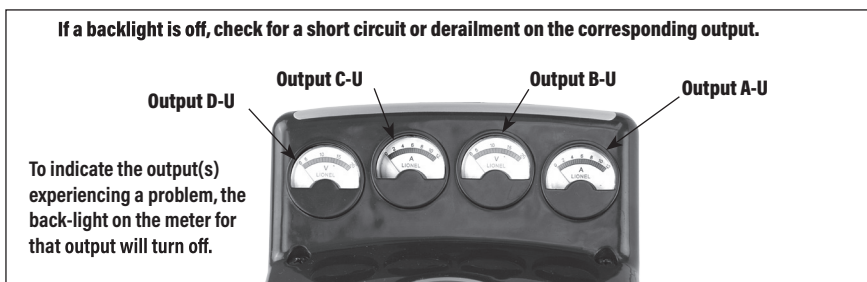
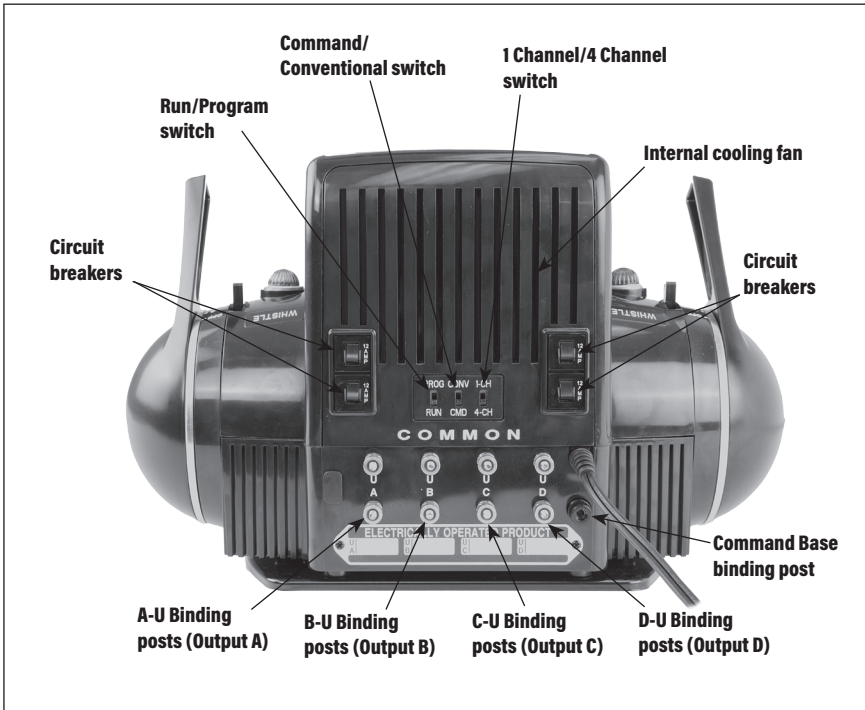

Figure 1. Meter light assignments (to show active fold-back mode/over-current protection)
Figure 3. Transformer controls and features
The fold-back current limit protects your transformer and layout from damage caused by severe overloads and short circuits in the case of derailments or objects falling on the track. At the same time it prevents the inconvenience of nuisance tripping caused by momentary overloads. It continuously monitors the output current of all four outputs. When there is a short on any of the outputs it will reduce the voltage on that output in a fraction of a second to hold the current at 10A. If the short circuit is not corrected in 3 seconds the transformer will interrupt power to that output. All other outputs will be unaffected. During the 3 seconds the red light on the ZW-L will flash. Once the output is shut down the red light will come on solid. To indicate which output(s) are experiencing the problem, the back light of the meter assigned to that output will be turned off. Refer to Figure 1 for the meters assigned to each output. For Conventional operation, move the throttle for that output to the Off position to reset the Transformer and resume normal operation. For Command operation press RESET or enter AUX1, 0 on the CAB-2/CAB-1 for that output.
In the event that a breaker is tripped, the backlight on the meter assigned to that output will be turned off. Refer to Figure 1 for the meters assigned to each output. Correct the short circuit (e.g., make sure that the train's wheels are properly on the track and remove any foreign objects from the rails), return the handle(s) to the Off position, and then press the circuit breaker buttons shown in Figure 3 on page 9 to reset power.
**T**he transformer controls and binding posts located on the back of the transformer are highlighted in this section. Refer to Figure 3 on page 9 for the location of these features.
**A**fter the ZW-L Transformer is connected to the track or your accessory, slide the CMD/CONV switch to the CONV position, the 1-CH/4-CH switch to the 4-CH position, and then set the power switch to the On position. Refer to Figure 1 on page 7 and Figure 3 on page 9 for the location of these controls.
**A**fter the Command Base is connected and turned on, slide the CMD, CONV switch to the CMD position, the 1-CH/4-CH switch to the 4-CH position, and then set the power switch to the On position. Refer to Figure 1 on page 3 and Figure 3 on page 9 for the location of these controls.